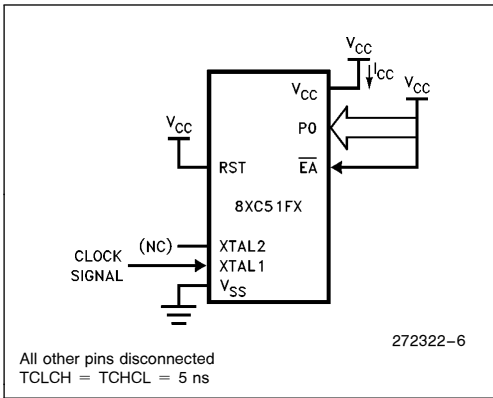

Figure 6. I_{CC} Test Condition, Active Mode
- See Figures 6–9 for test conditions. Minimum V_{CC} for power down is 2V.